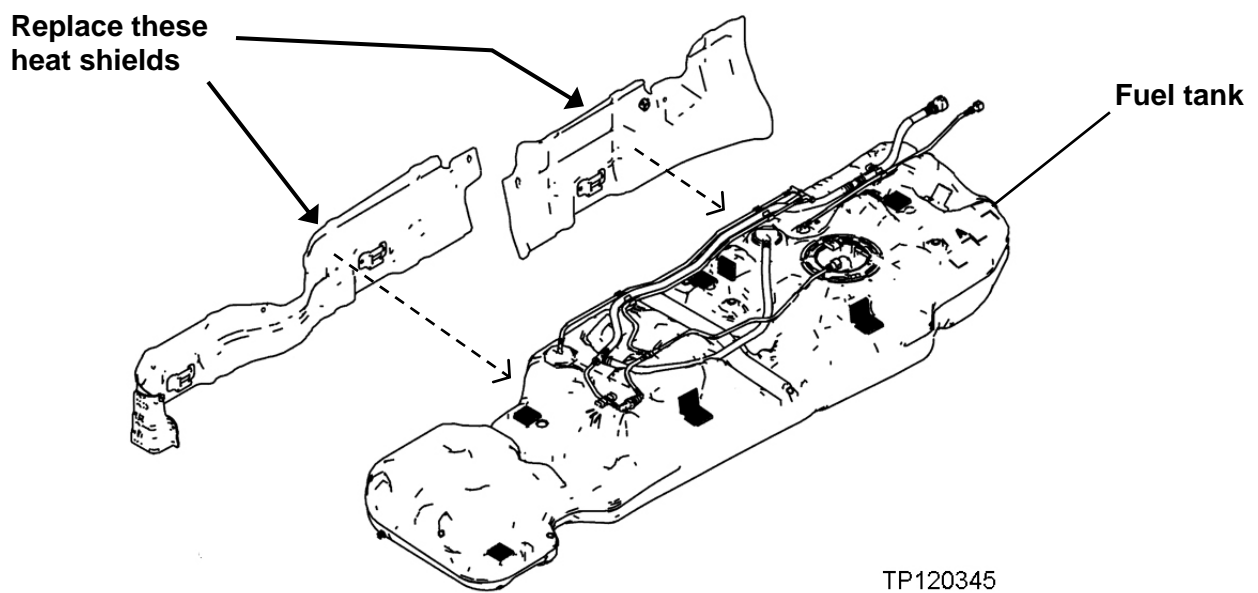

Figure 9
- Replace the heat shields with new ones (17285-1JA0A and 17285-1JA1A) shown in Figure 9.